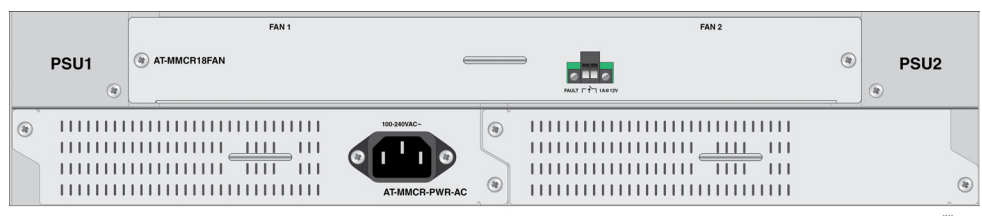
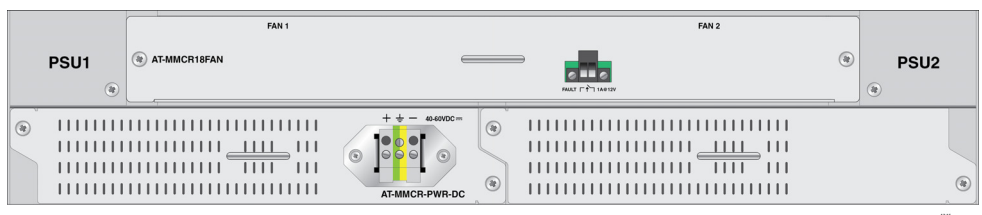

Figure 8. Inserting the AC Power Supply Unit into Slot A
Figure 9. Inserting the DC Power Supply Unit into Slot A
3. Insert the power supply unit into the power supply slot A. See Figure 8 for the AC power supply unit and Figure 9 on page 23 for the DC power supply unit.